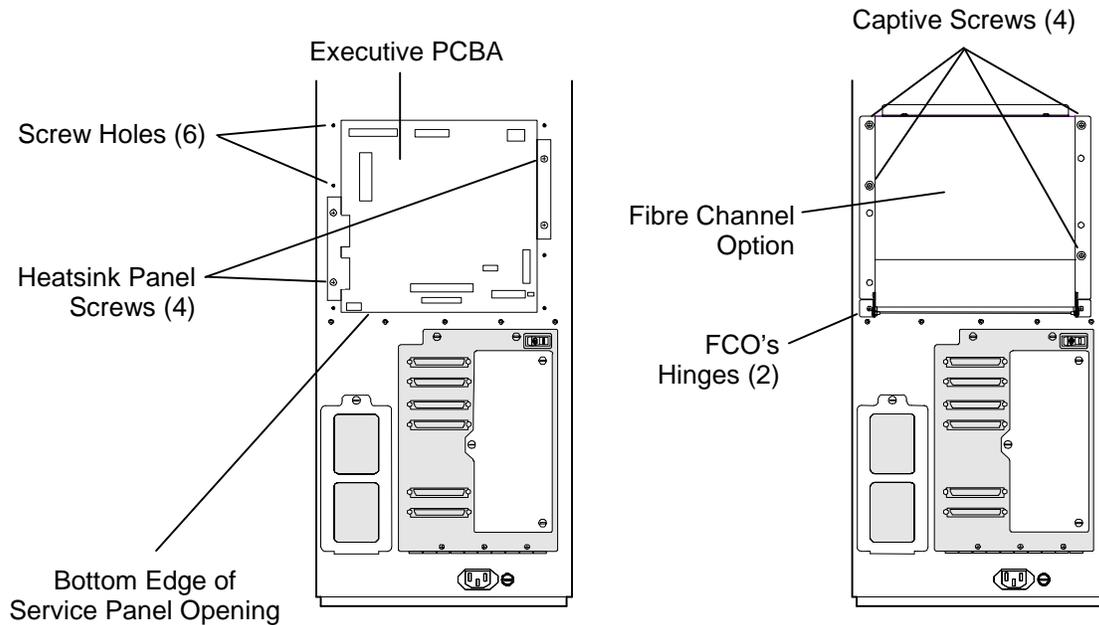

Figure 4-9 Rear View of TLS
3. Place the lower lip of the FCO inside the bottom edge of the service panel opening and tilt the FCO upwards, making sure that the heatsink panel screws align with the openings in the FCO. See Figure 4-9. The hinge surfaces should rest flat against the rear of the library.
4. Using a Phillips screwdriver, secure the FCO to the rear of the library at the FCO's two top captive screws. See Figure 4-9.
5. Using two of the screws that were removed with the service panel, attach the FCO's two hinges to the rear of the library. See Figure 4-9.
11. Carefully lift the FCO until it touches the rear of the TLS. Using a Phillips screwdriver, secure the Fibre Channel Option to the rear of the TLS by tightening all four of the captive screws. Refer to Figure 4-9 for captive screw locations.